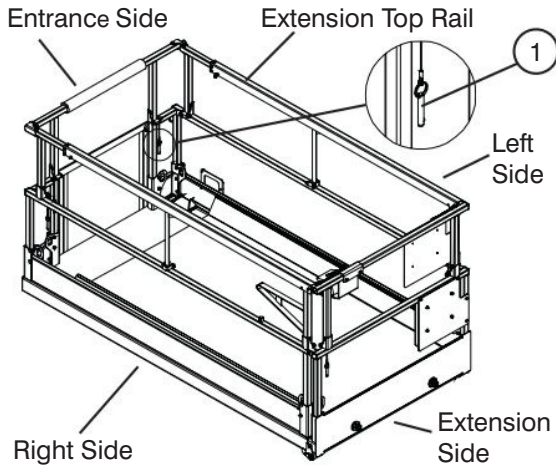

Figure 3-11a. Folding Guardrail System
7. Carefully raise each guardrail up and lock into place with locking pins ensuring that the detent ball of each pin is all the way through (Refer to Figure 3-11a).